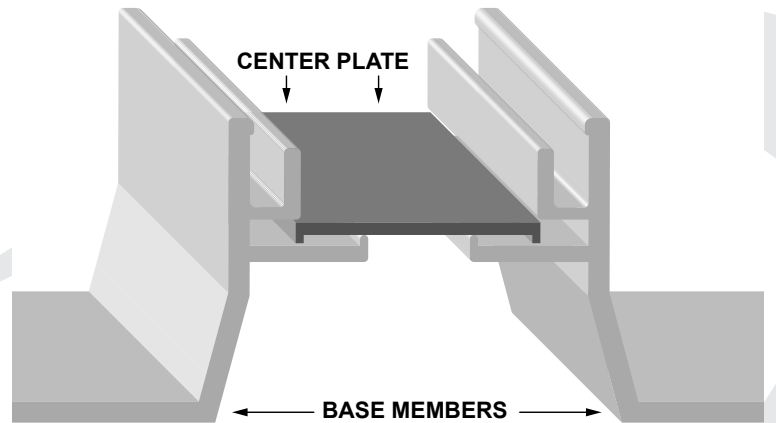

Figure 3—Base Members and Plate Assembly
- Center plate only**—Insert the center plate into both supporting tracks, filling the gap between members (Figure 3).